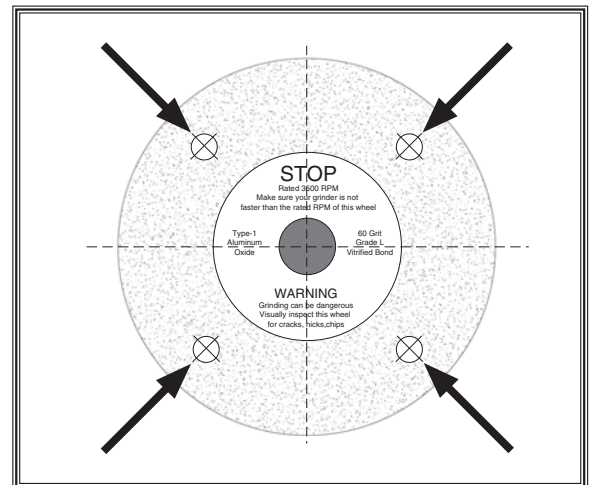

Figure 14. Tapping locations when performing a ring test.
3. At spots shown in **Figure 14**, gently tap grinding wheel with a light non-metallic device such as handle of a screwdriver or a wooden mallet.